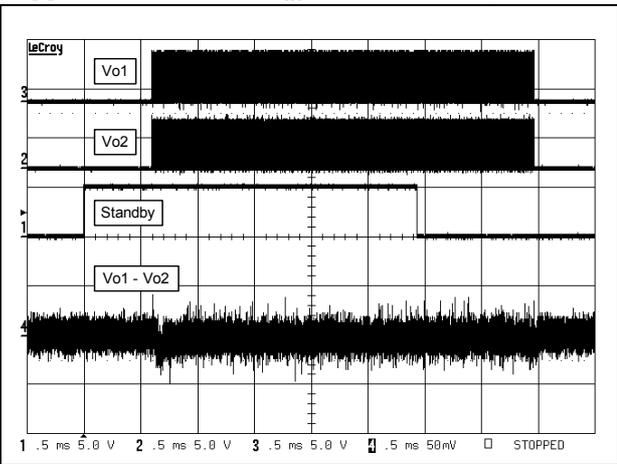

Figure 43. Startup and shutdown phase
*Note:* The gain increases smoothly (see Figure 43 and Figure 44) from the mute to the gain selected by the GS pin (Section 4.2).
*Note:* The gain decreases smoothly until the outputs are muted (see Figure 43 and Figure 44).